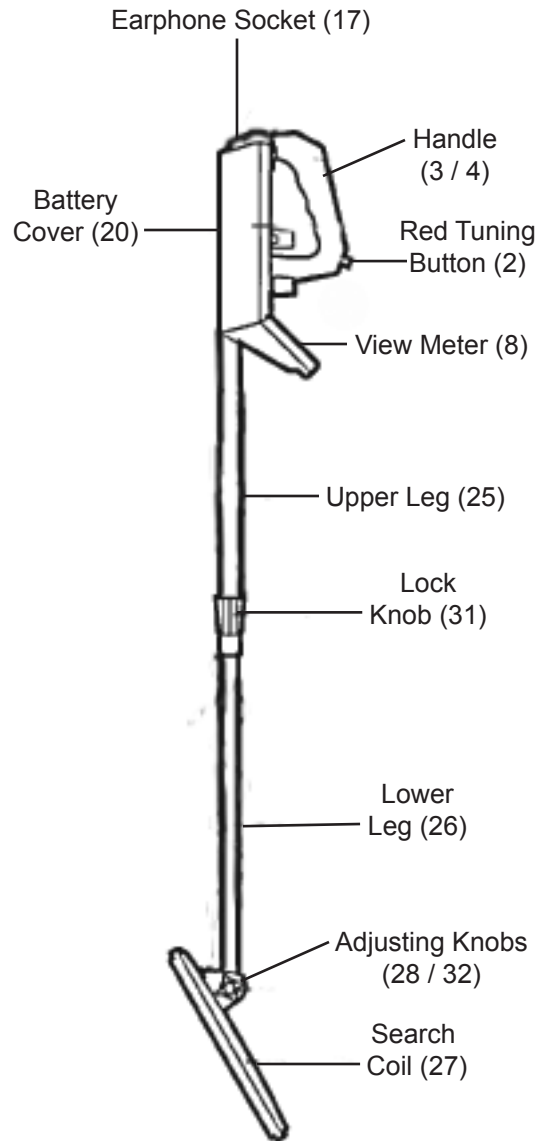

Figure 1
1. Insert headphone (sold separately) jack into Earphone Socket (17). See Figure 1.